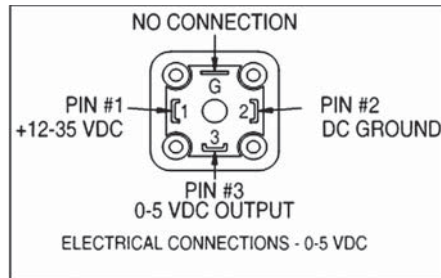

Figure 1
- 4) Removing the cover will reveal the internal signal conditioning circuitry and the field configurable controls. Figure 1 illustrates the field configurable attributes of the device which shall be referenced in subsequent sections of this manual.
- 3) Connect the output connector to position A, refer to Figure 1.
Refer to Figure 1